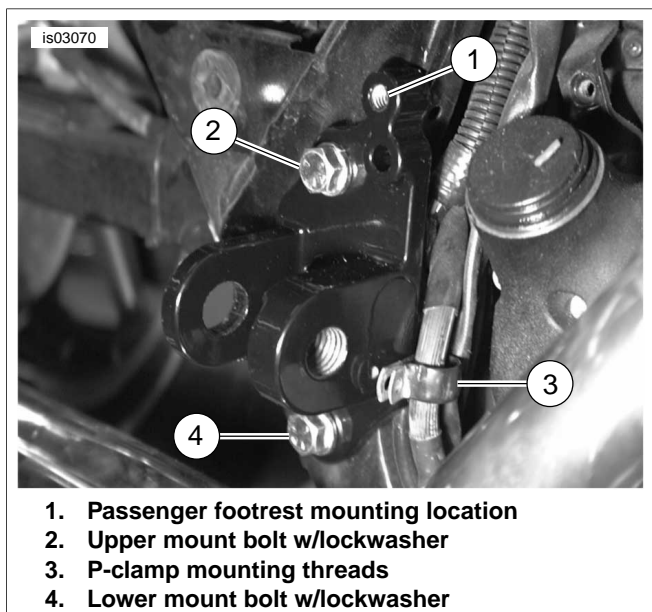
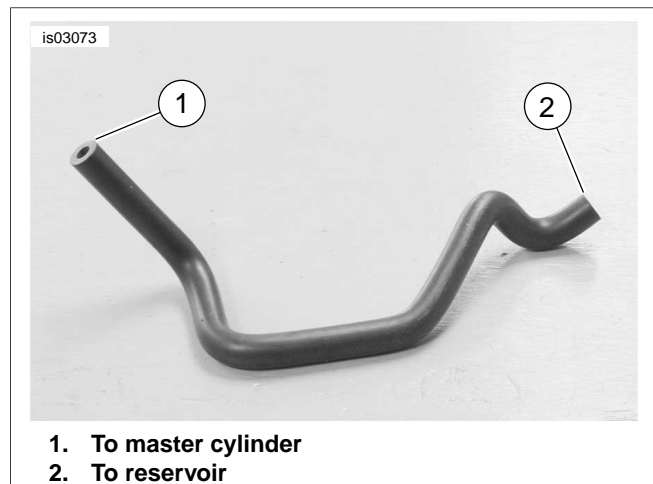
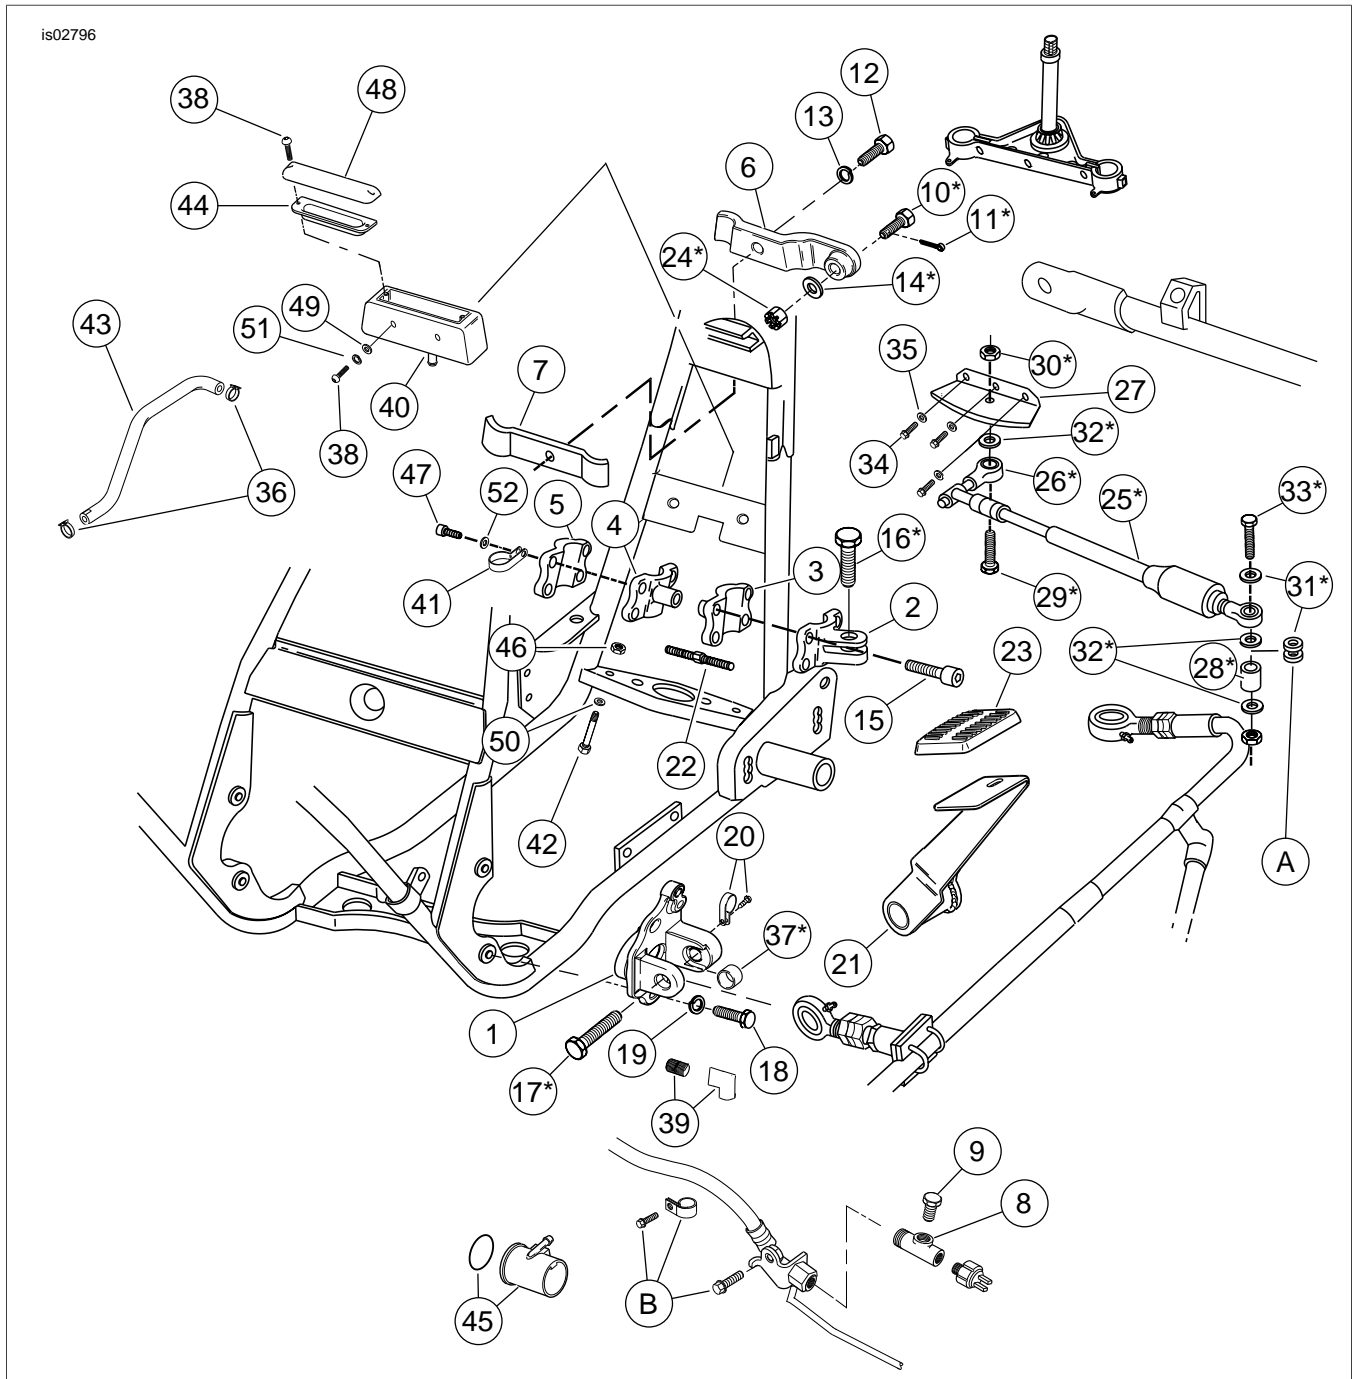

Figure 13. Install Rear Mount and Hardware
Figure 15. Reservoir-To-Master Cylinder Hose
Figure 19. Service Parts: TLE Sidecar Installation Kits
3. See Figure 19. Obtain the lower front mount (2) and four bolts (15) from kit. Position the lower front mount on the right frame downtube opposite the right stabilizer and insert four bolts through mount and stabilizer. Finger tighten bolts.
4. See Figure 19. Obtain the backing plate (5), four bolts (47), flat washer (52) and clutch cable clamp (41) from kit. Install backing plate using four bolts, however use fourth bolt in upper right hand side with clamp and secure clutch cable in place as shown (See Figure 8). Tighten bolts finger tight.
8. See Figure 19. Refer to applicable Touring model Service Manual and follow instructions to install voltage regulator and electrical caddy plate using two hex head capscrews (42), flat washers (50) and lock nuts (46).
2. See Figure 19. Obtain remote reservoir (40), two flat washers (49), two lock washers (51) and two socket head screws (38) from kit. Orient reservoir on wheel side of frame downtubes and install to frame crossmember as shown. Tighten the reservoir mounting screws securely. Do not install hose at this time.
See Figure 11. The rear mount requires only two bolts for installation. The clevis opening for installing the connector rod end (bearing) from sidecar frame has been made wider to allow access to the swingarm pivot shaft nut without removing the mount. Therefore, a spacer (See Figure 19, Item #37) is used with the connector rod end (bearing) when connecting the sidecar frame pivot mount to the rear mount.
2. See Figure 19. Loosen and remove the screw with P-clamp (20) attaching rear brake line to right passenger footrest bracket. Retain screw and P-clamp to attach brake line to rear mount. Remove the bolt and lockwasher securing the
- Remove the two bolts (w/lockwashers) to free the right rear swingarm bracket from frame and remove bracket. Save swingarm bracket for future installation and save bolts and lockwashers for installation of rear mount. See Figure 19 and Figure 13. Position the rear mount (1) over the two mounting holes and be certain roll pin enters the rubber mount's groove as shown in Figure 13.
- See Figure 13. Install upper and lower rear mount bolts with lockwashers (removed in last step) to secure rear mount to frame. Tighten bolts to 34-42 ft-lbs (46-57 Nm).
- Obtain screw with P-clamp (20) removed in Step 2 of this procedure. Secure brake line to mount at threaded position shown. Tighten screw securely.
- See Figure 19. Obtain the steering damper bracket (27), three screws (34) and three washers (35) from kit. Using the Illustration as a guide, install the steering damper bracket to lower triple clamp. Tighten the screws to 96-120 **in-lbs** (10.8-13.6 Nm).
- See Figure 19. Obtain new brake line T-fitting (8) from kit. Coat male threads of fitting with Loctite Pipe Sealant with Teflon (Harley-Davidson part number 99818-97). Thread tee into frame bracket fitting and tighten so that right angle opening is vertical (facing upward).
- See Figure 19. Obtain plug (9) from kit and save. If sidecar is not being attached, install plug in the right angle opening. A union and plug is provided with the sidecar to plug the sidecar brake line.
2. See Figure 19. Obtain hose (43) and two hose clamps (36) from kit. Route hose from master cylinder reservoir over stabilizer then back down under lower right front mount. See Figures 15, 16 and 17 for routing at master cylinder.
See Figure 19. Highlighted hardware, Items 10, 11, 14, 16, 17, 24, 25, 26, 28, 29, 30, 31, 32, 33 and 37 are used for attaching the sidecar to the motorcycle. See Sidecar Service Manual for installation procedures regarding the highlighted items.
Fasten the footboard to the rear mount assembly (Figure 19, Item 1) using the footboard attaching hardware. Adjust footboard to suit the passenger and install and tighten bolt to 15-18 ft-lbs (20.3-24.4 Nm).
The contents of this kit are listed as item numbers 26 through 35 in Figure 19. To install the steering damper bracket, follow the procedure "Attaching Steering Damper Bracket" above. Installation of the remaining parts and adjustment is covered in the Sidecar Service Manual.